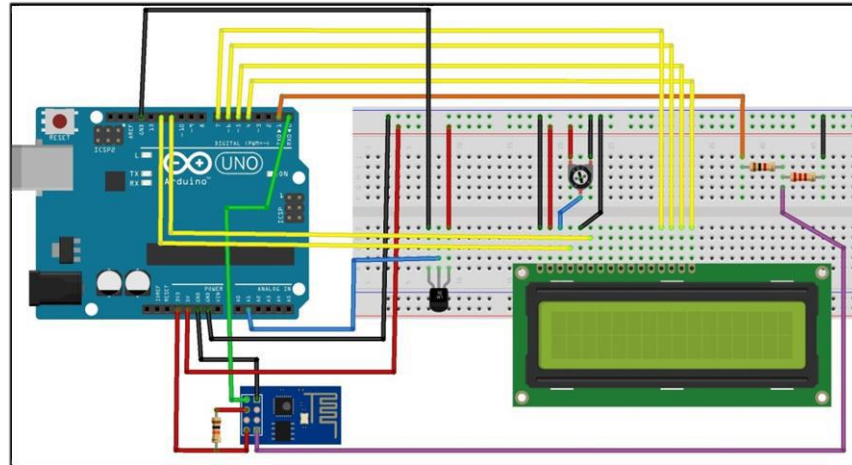

Fig 7.
This example is a slightly modified version of the above one. Here the ESP8266 is maintained at its default baud rate of 115200, and the Arduino Uno in this case uses its only serial port, namely pin0 (RX) and pin1 (TX) to connect to it. Note that prior to uploading the program to Arduino, you should remove RX and TX connectors to the ESP8266, otherwise the sketch upload will be unsuccessful. Fig 7 depicts the schematic.